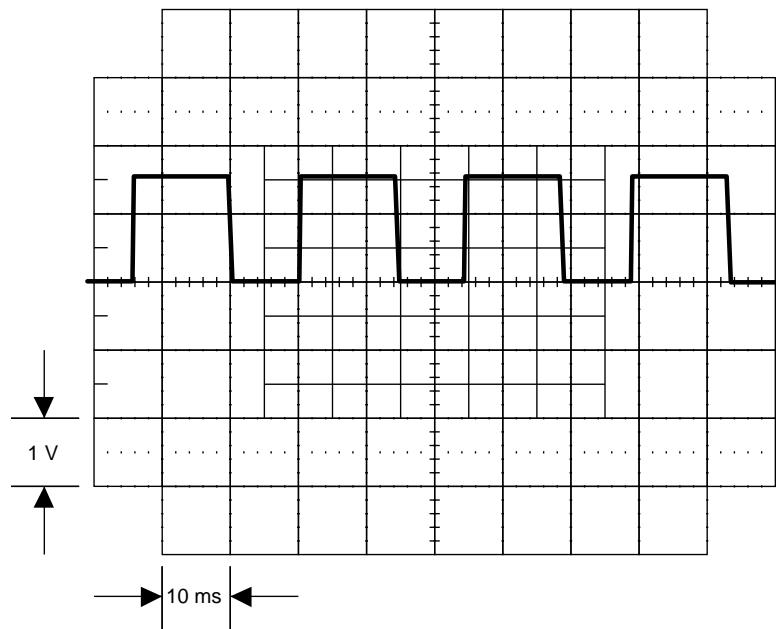

Figure 5-20. Waveform at TP7
5. Check CH2 FILTER INPUT. Connect an oscilloscope probe to TP7 (common to TP3). Set the 5700A to 6.5V dc, operate. Set the oscilloscope to 2V/div at 2 ms/div. Verify the oscilloscope displays pulses similar to those shown in Figure 5-20.
13. Check CH2 FILTER INPUT. Connect an oscilloscope to TP7 (common to TP3) and set it to 2V/div at 2 ms/div. Verify it displays a signal similar to the previously shown Figure 5-20.
The duty cycle may differ from Figure 5-20. If a failure is detected, check U11, Q30, Q31, Q32, and their associated components.